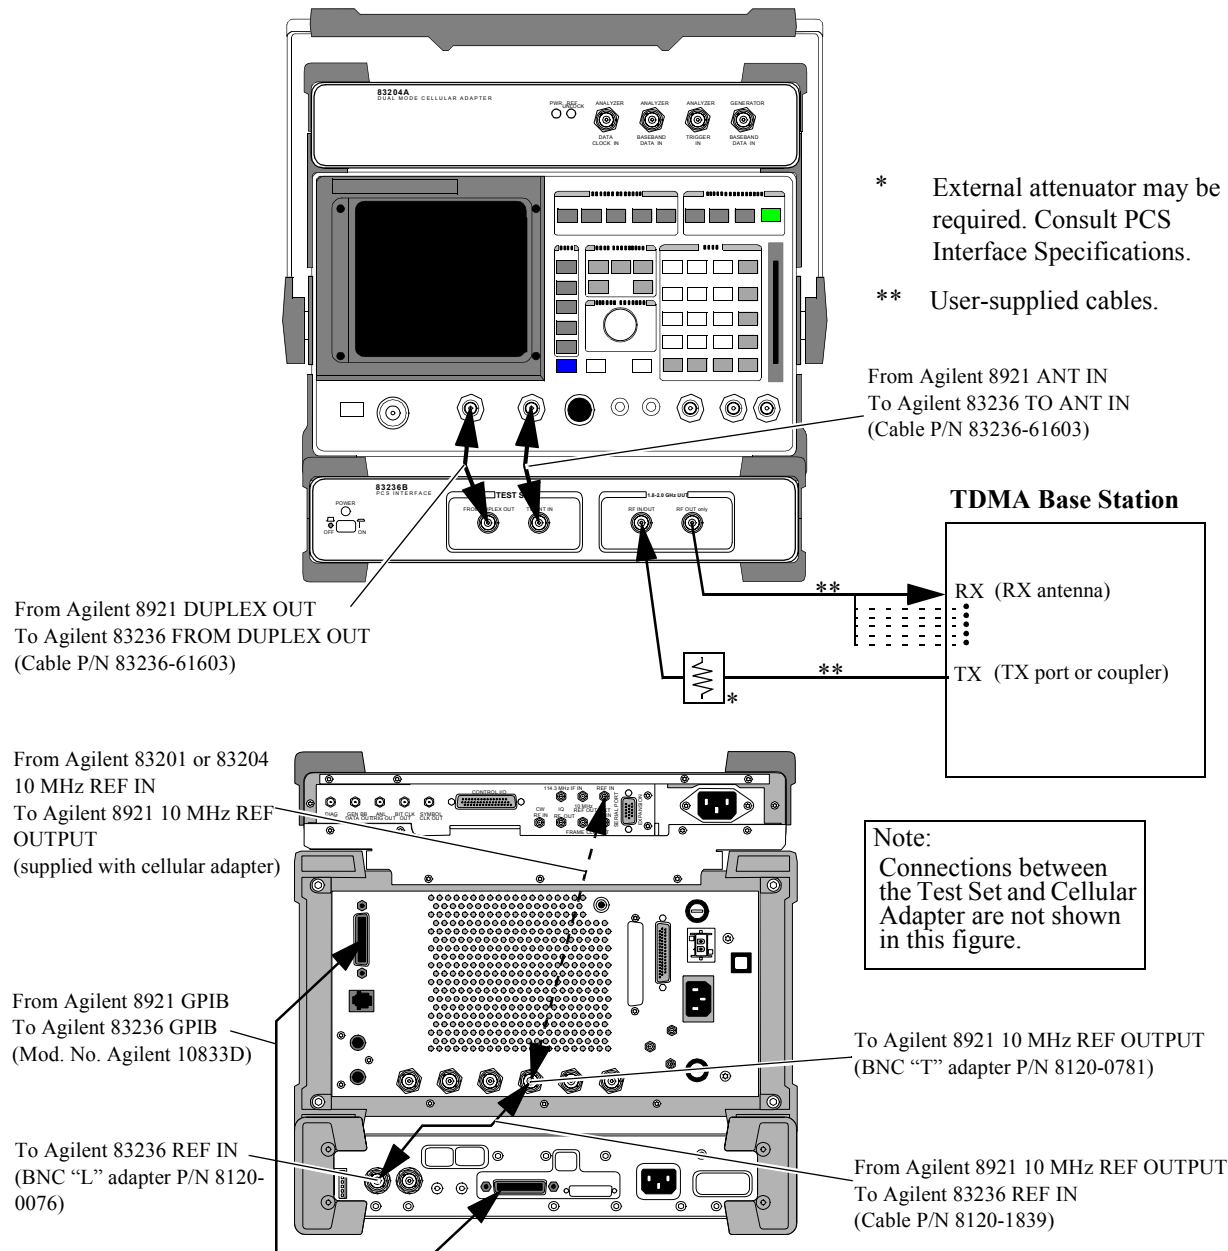

Figure 19 Connection Diagram for the Agilent 8921 Test Configuration (TDMA Base Station Tests without Frame Clock)
- TDMA base station without frame clock: See figure 19.